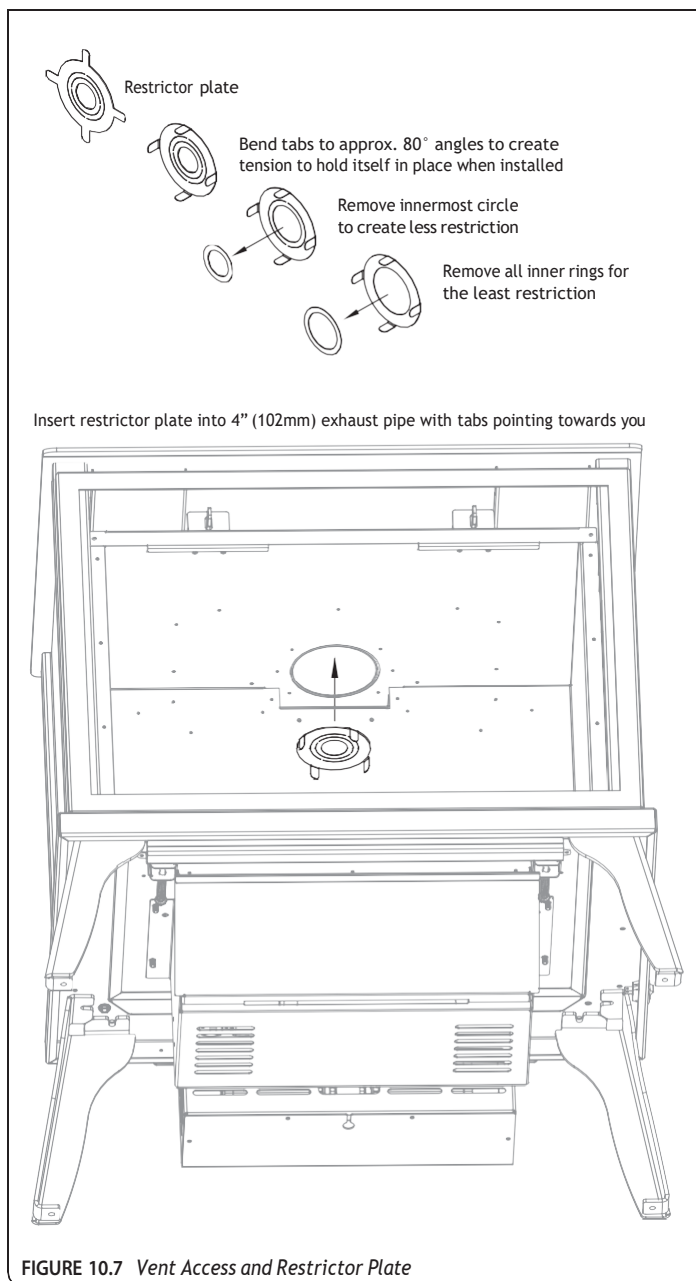

FIGURE 10.7 Vent Access and Restrictor Plate
2. Remove (3) screws at the firebox back wall securing the baffle. Remove baffle to access the 4" (102mm) exhaust pipe.
4. Insert restrictor plate into the 4" (102mm) exhaust pipe with the tabs pointing towards you. See **FIGURE 10.7**.
5. Reinstall baffle by resting the front of the baffle above flange along the inside top of firebox opening. Tip the baffle against the firebox back wall, and secure with (3) screws previously removed.